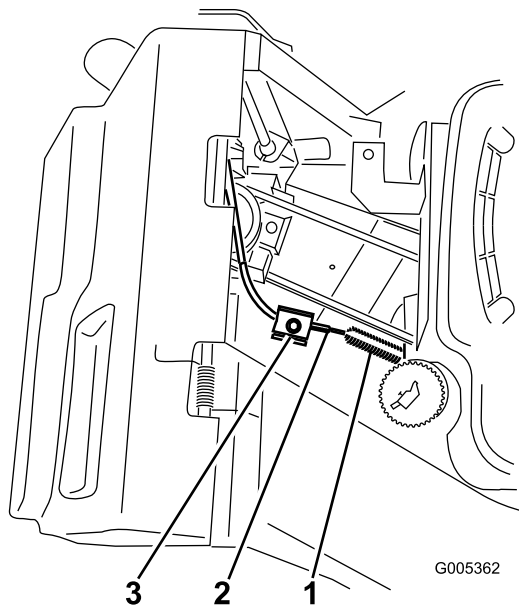

Figure 28
5. Loosen the cable clamp screw until the brake cable conduit slides (Figure 28).